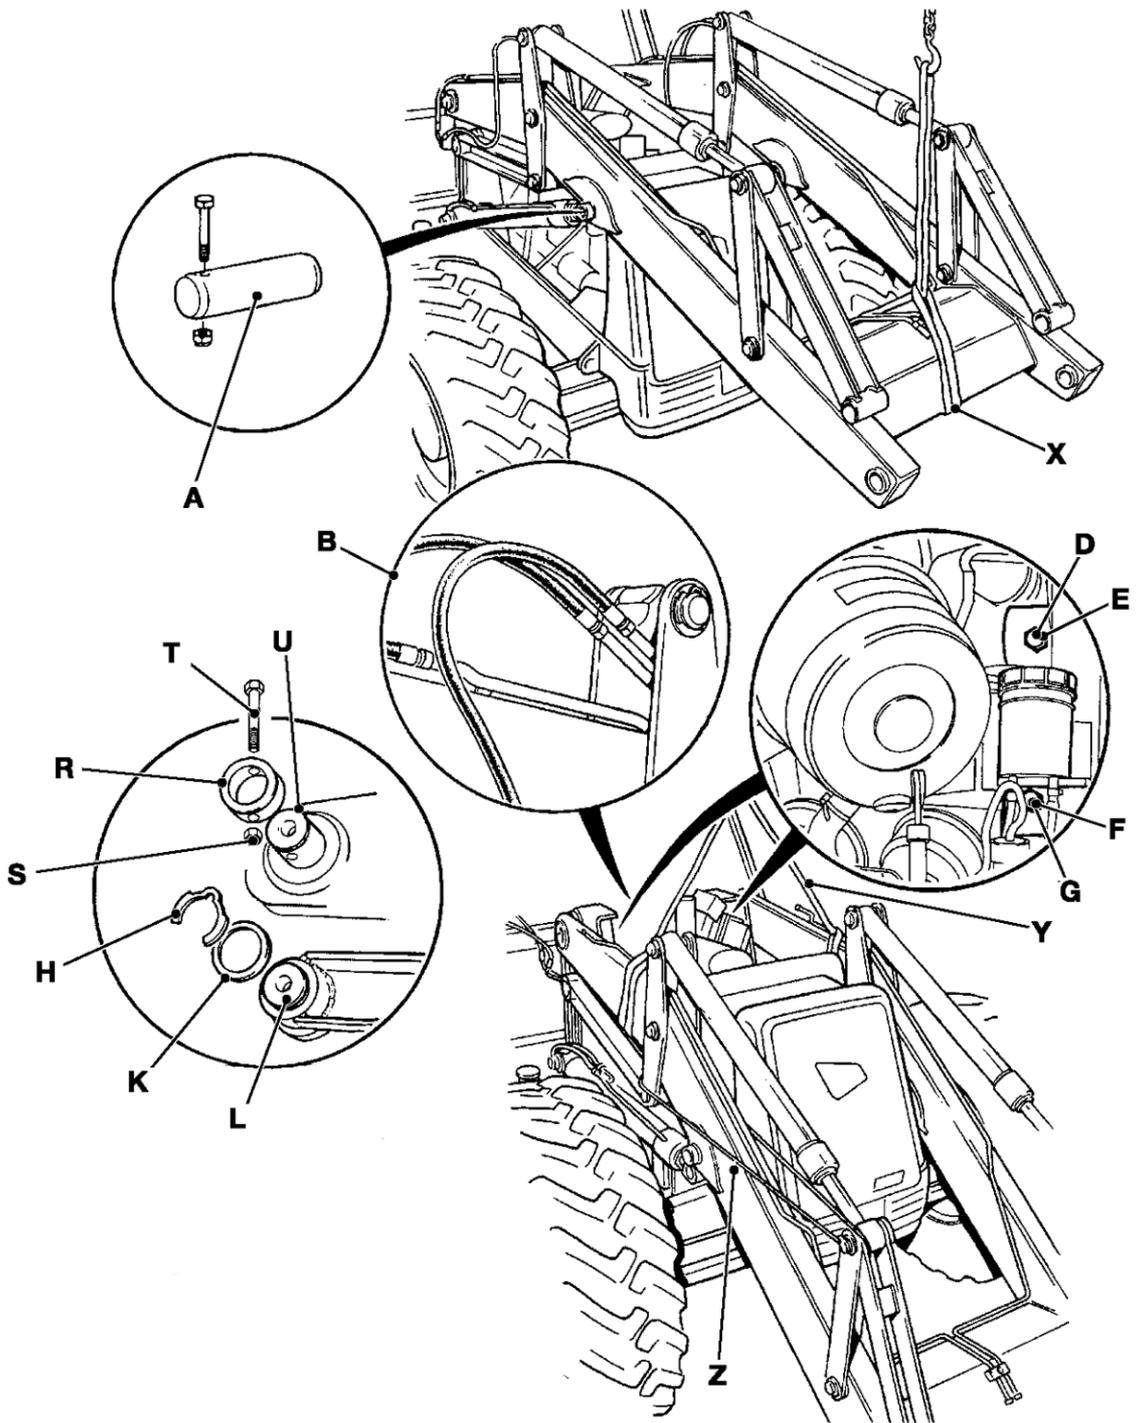

Fig 15.
- 4 ⇒ Fig 15. \(□ B-97\). Raise the loader arms to give access to the lift ram pivot pins **A**.